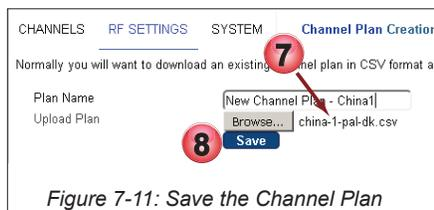

Figure 7-11: Save the Channel Plan
7. The Channel Plan file name appears in the display, Figure 7-11.